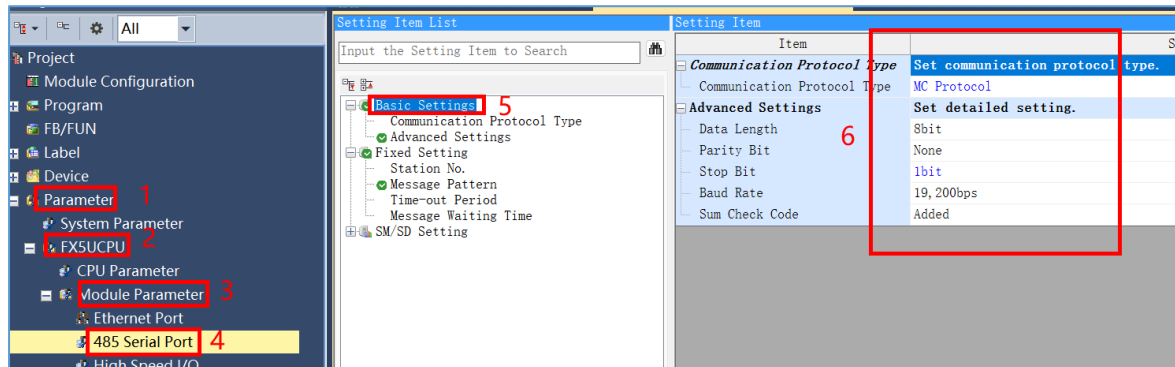

Figure 4
(1) Click "Parameter" - "FX5UCPU" - "Module Parameter" - "485 Serial Port - Basic Settings", see Figure 4 for detailed settings;